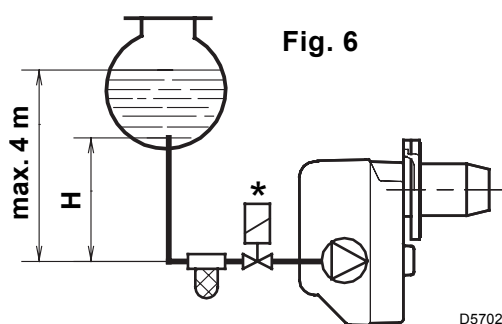
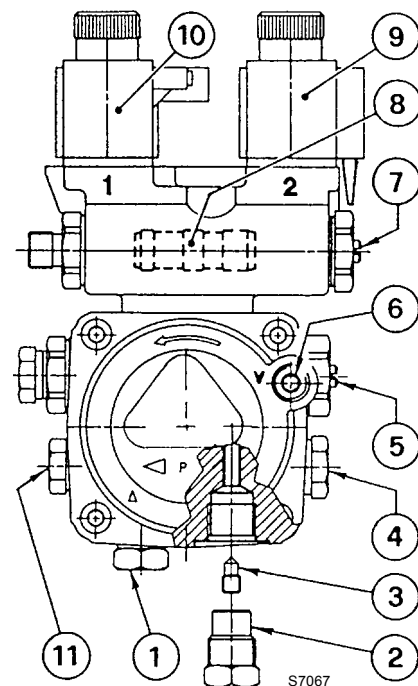

Fig. 6
Fig. 7
- The pump is designed to allow working with two pipes. In order to obtain one pipe working it is necessary to unscrew the return plug (2), remove the by-pass screw (3) and then screw again the plug (2). (see fig. 7).
On the system in fig. 6 it is sufficient to loosen the suction gauge connection (6, fig. 7) and wait until oil flows out.